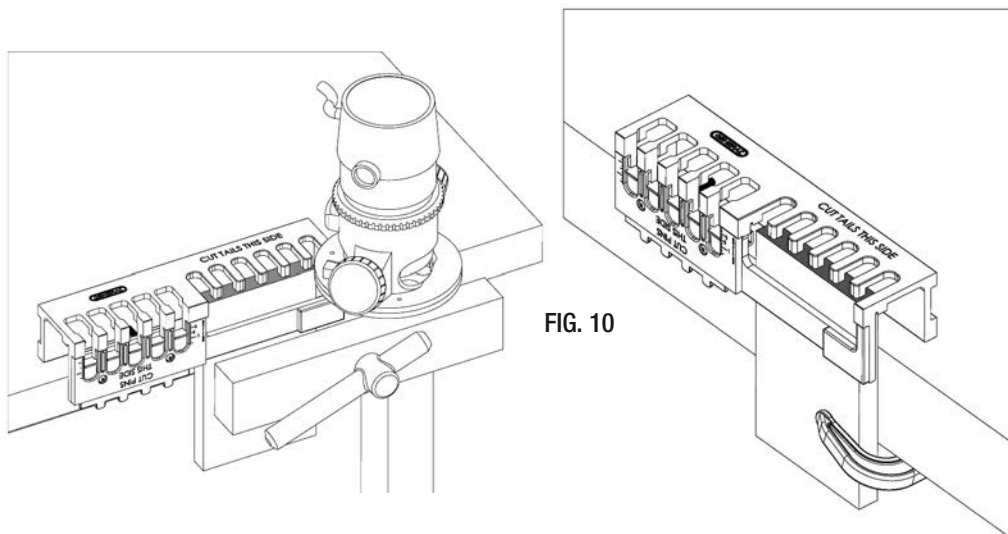
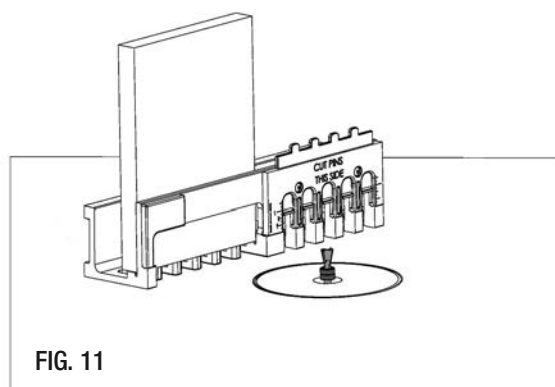

FIG. 10
FIG. 11
6. Clamp the board to a workbench or secure it in a vice as shown (FIG. 10) or if using a router table, make sure the face saying “cut tails this side” is faced to the router table (FIG. 11).